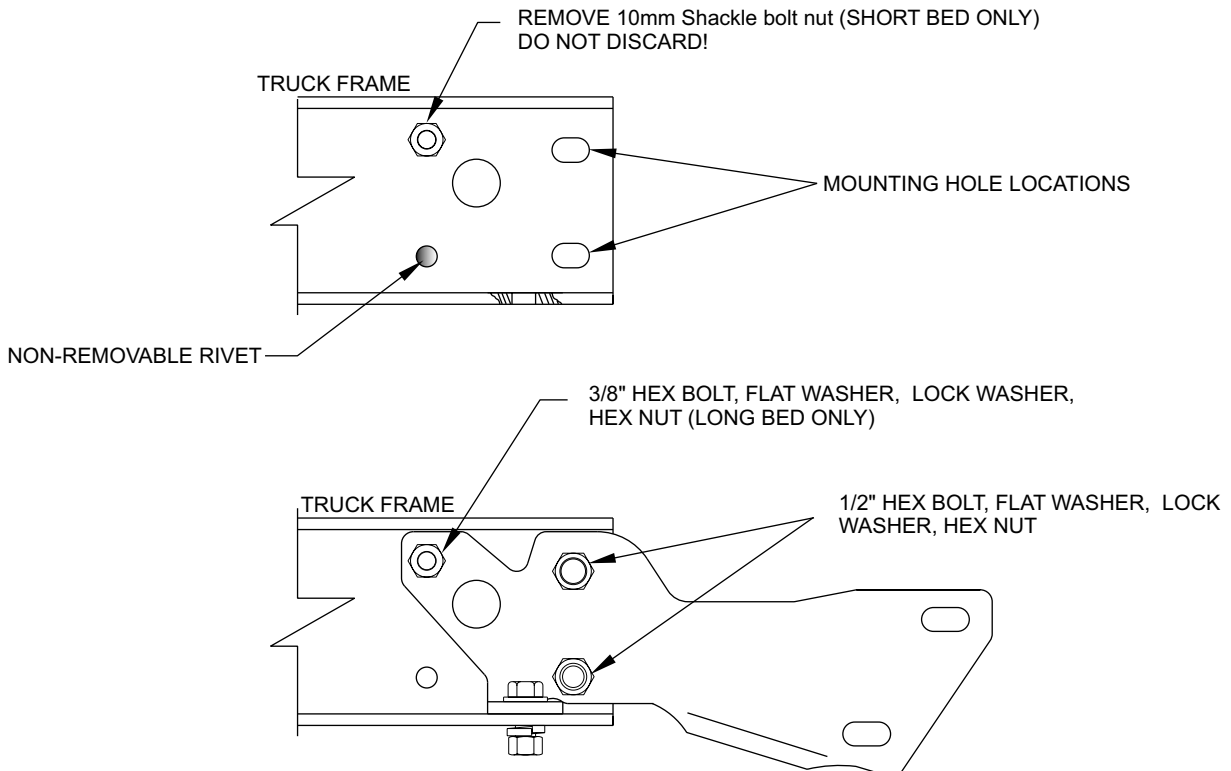

FIGURE 1
STEP 1: (SHORT BED ONLY) Remove the 10mm shackle bolt nuts from both frame rails prior to installing mounting brackets. DO NOT DISCARD! (See Figure 1).
STEP 2: Using 1/2 inch hardware, loosely install inner and outer mounting brackets on the inside and outside of truck frame rails (Refer to Figure 1 and 2). Long bed models install 3/8 inch hardware (as shown below). Short bed models re-install 10mm shackle bolt nut. DO NOT TIGHTEN mounting hardware. **(NOTE: RE-USE FACTORY BRACKETS FOR 31100 & 32100)**